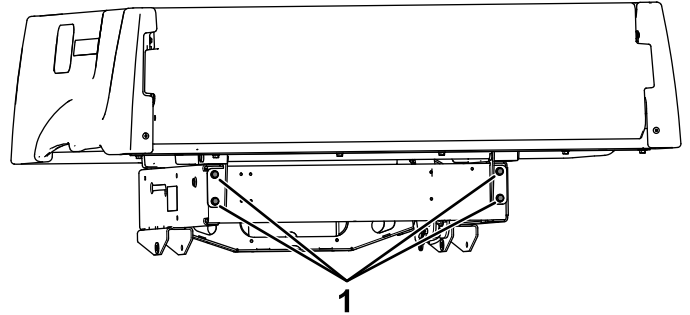

Figure 16
4. If the cargo bed does not make contact with the foam pads in both locations, loosen the 4 cargo bed hinge bolts (Figure 16).